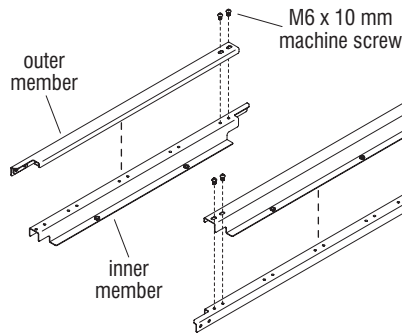

Figure 4 - (48" wide table shown)
- Assembling one stringer at a time, locate one inner and one outer member. Orient both stringer components so the mounting holes on the side are facing opposite from each other as illustrated in Figure 4. Place the outer member on top of the inner member. Move the outer member left or right to achieve the desired stringer length (6" increments). Align the two alignment holes on the outer member with the two holes on the inner member and secure with two M6 x 10 machine screws. Repeat this process to assemble the second stringer (Figure 4 & Detail F).